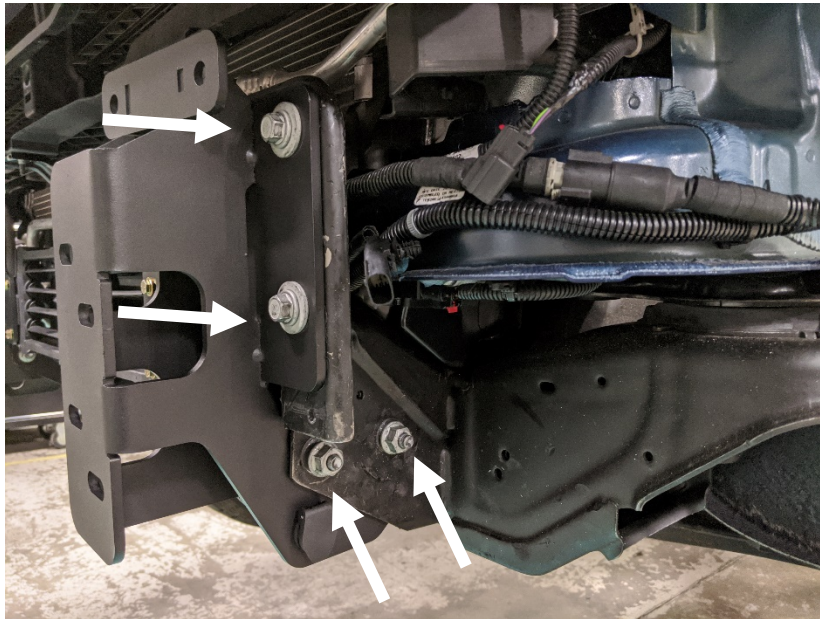

Figure 20
19. Install the two mounting brackets (22226 and 22227) using a 15mm and 18mm socket wrench and the OEM tow hook bolts and bracket bolts removed during steps 12-13. (Figure 20)